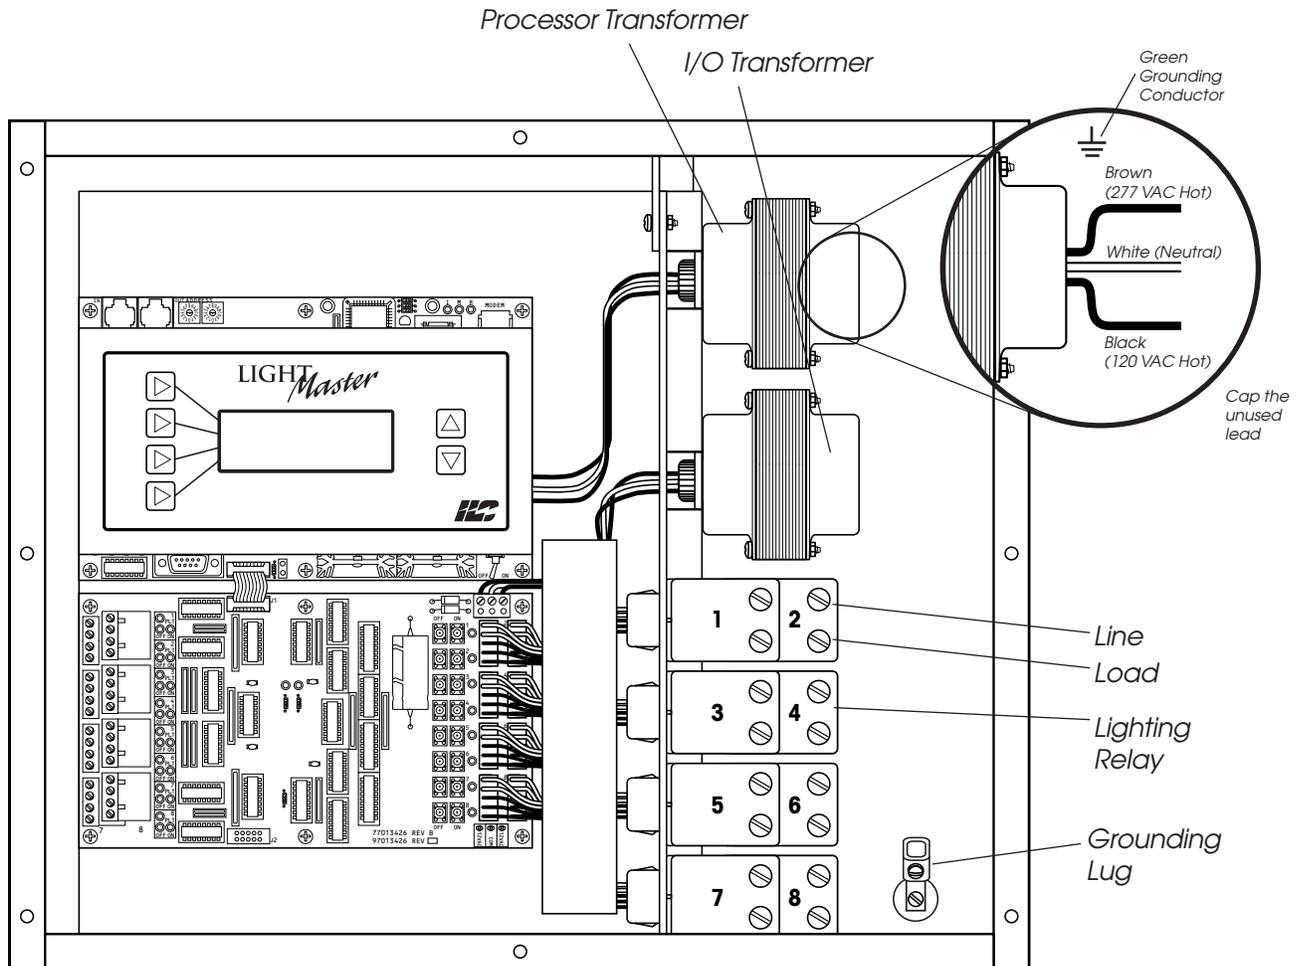

Figure 2.1 – Terminate Line to Control Transformer Primaries
2.3.1 Wire the Control Transformers – Run a dedicated 120 or 277 VAC circuit, including grounding conductor, and terminate it to the primaries of the LightMaster processor and I/O transformers. Cap the unused lead. (See Figure 2.1.)